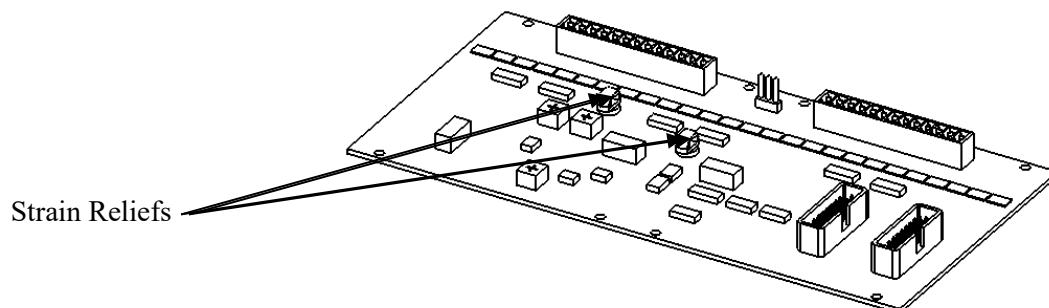

Fig. 2 Strain Relief locations.
10. Secure the wires to the PC Board's strain relief components using wire-ties. See Figure 2.